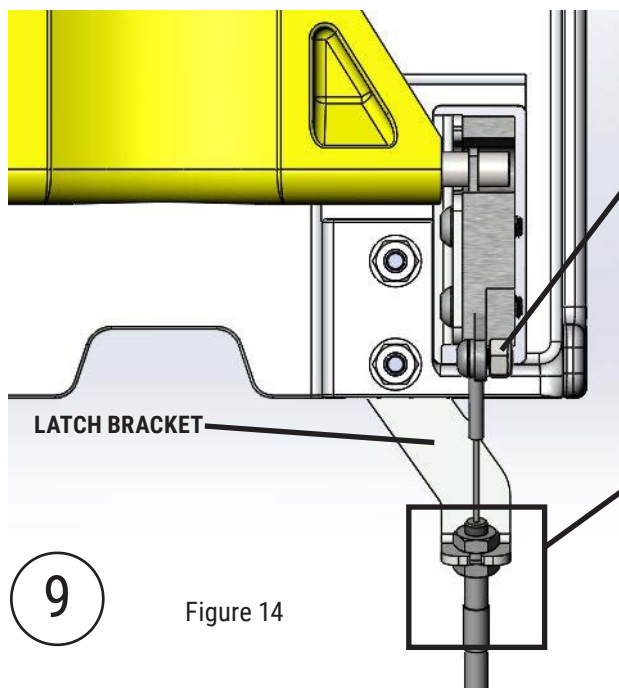

Figure 14
The release cable is routed up through the opening in the cylinder support and center guide and is attached to the latch bracket by two nuts tightened around latch bracket. See Figure 14.
- A. Screw and nut attaching cable to latch should spin freely, but screw on thread should fully engage nylon insert in nut. See Figure 14.